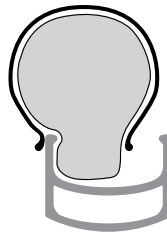

Figure 15. Push the first bead to the side and insert the inner tube.
5. Push the tire and inner tube over until the inner tube is inside the rim (Figure 15).